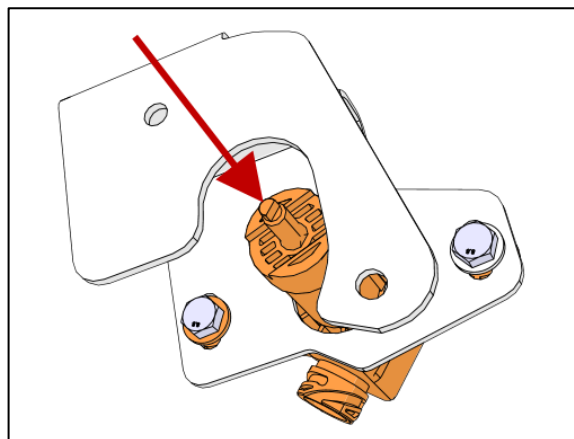

FIGURE 25
*Make sure the flat on the sensor rotor is orientated as shown in Figure 25.*